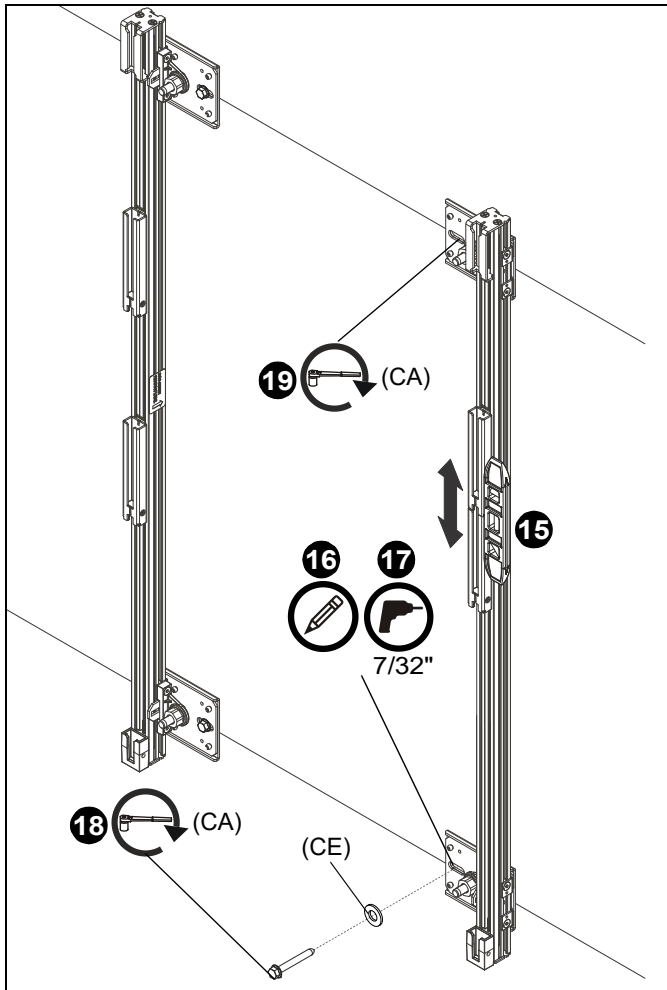

Figure 7
- Slide the H-blocks together within the extrusion and attach a magnetic 2-foot level to side of upright. (See Figure 7)
- Mark mounting hole location along lower line based on horizontal locations determined in Step 2a. (See Figure 7)
- Drill a 7/32" hole at the location of the first lower mounting hole. (See Figure 7)
- Use 5/16 x 2 1/2" hex head lag screw (CA) and 5/16" washer (CE) to install right upright (B) to wall at lower mounting hole. Center the lag bolt horizontally along mounting slot. (See Figure 7)
- Hold mount upright and tighten upper lag bolt (CA) that was partially installed in Step 14. (See Figure 7)